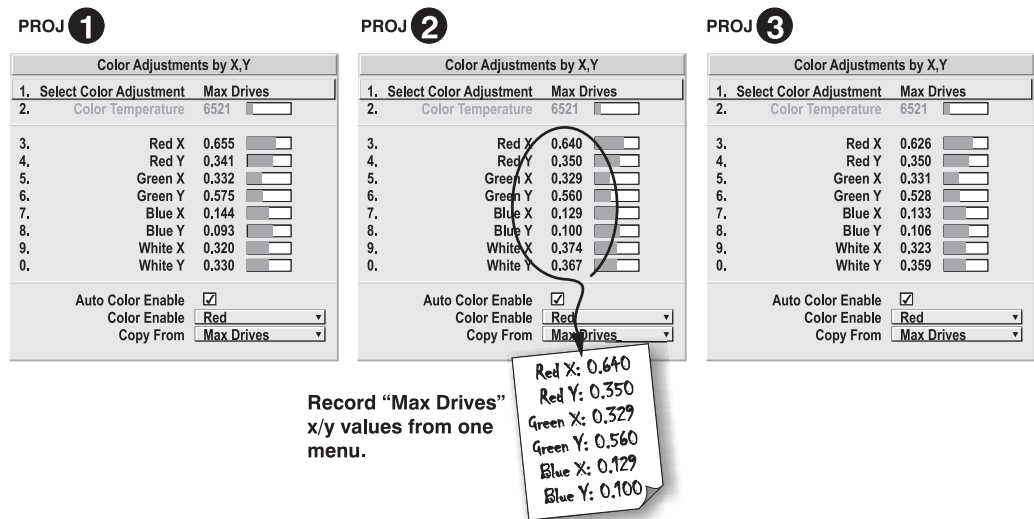

Figure 3.23. Jot Down a Set of “Max Drives” X/Y Values
4. Display the *Color Adjustments by X,Y* menus for all projectors. Each menu shows the x/y coordinates defining the “Max Drives” color gamut for this projector. Jot down the values shown in one (any) of the displays. See Figure 3.23. Or use the “Copy From” function to copy them into a “User” gamut in one projector.